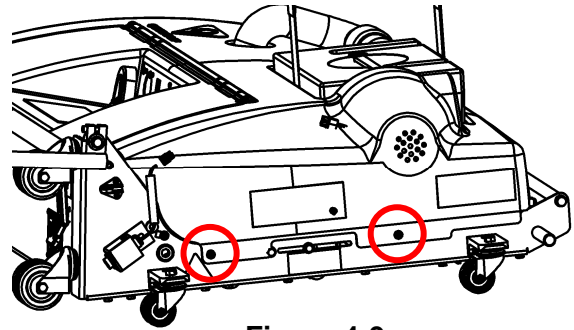

Figure 4-9
1. Unlatch the oil compartment door latches, disconnect the vacuum hose and remove the waste tank, remove the cap from the cleaner tank, remove the two screws from each side of the hood (see Figure 4-9), and lift the hood from the frame. Set the screws aside.